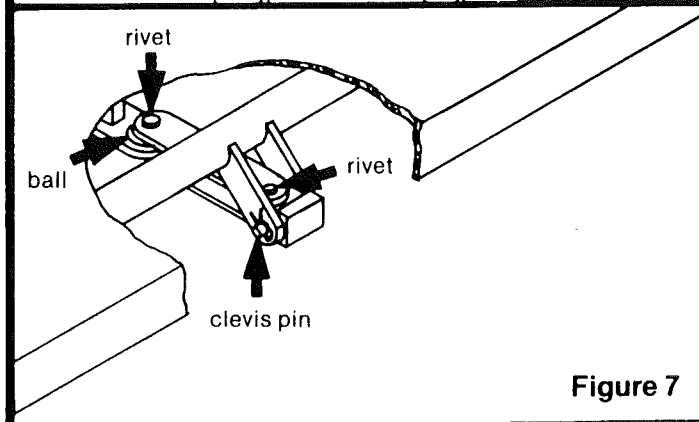

Figure 7
5. TO CHECK THE IGNITION SAFETY SYSTEM: Connect the voltmeter between the YELLOW wire from the vehicle half of the four way plug and the ring terminal on the green ground wire (See Figure 7). The reading should be about 12 volts DC when the ignition is on and zero when the ignition is off. If the reading is zero when the ignition is on, check the connection of the yellow wire at the vehicle's fuse panel. If connected at a fuse, check for a blown fuse. **NOTE** - On some installations there may be an inline fuse or circuit breaker in the YELLOW wire that should be checked. If the reading was about 12 volts DC when the ignition was off, the YELLOW wire is connected to a constant live source. On control units #9513 and #9590, if the YELLOW wire is connected to a constant live source, the step will always activate with the door movement, even if the power switch and ignition are off.